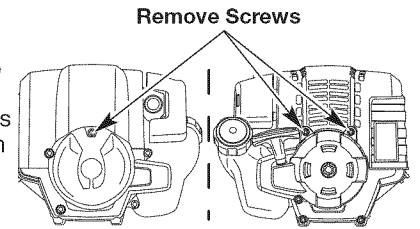

Fig. 40
- Remove the two (2) screws on back of the engine cover and the one on the front of the engine cover with a Flat-head or T-25 Torx screwdriver (Fig. 40).
1. Stop the engine and allow it to cool. Remove the two (2) screws on back of the engine cover and the one on the front of the engine cover with a Flat-head or T-25 Torx screwdriver (Fig. 40).